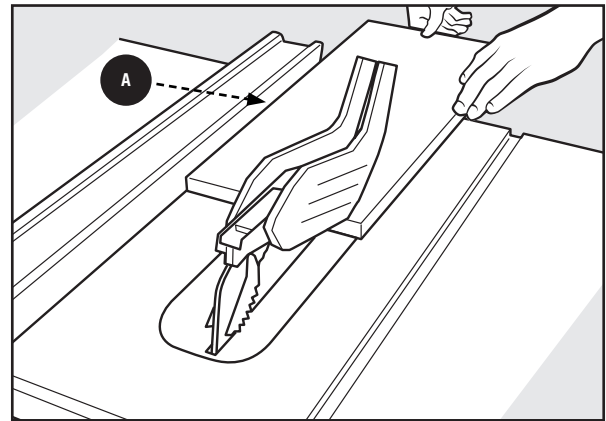

Figure 47
9. Hold the workpiece flat on the table and against the fence **A**. The workpiece **MUST** have a straight edge against the fence and **MUST NOT** be warped, twisted or bowed. See proper hand position in Figure 47.